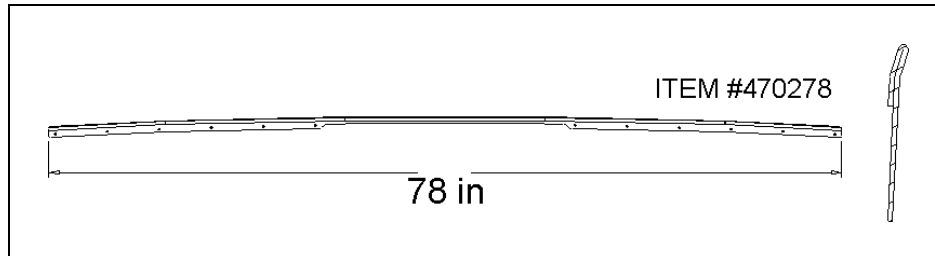
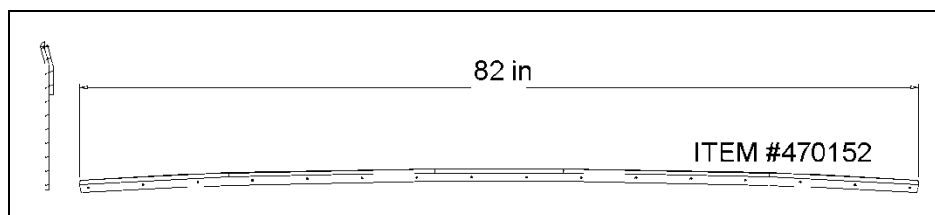

FIGURE 39: X3 SERIES UPPER DRIP EDGE
FIGURE 40: X3 SERIES LOWER DRIP EDGE
1. Identify the drip edge #470278 and #470152 (FIGURE 39 & FIGURE 40).